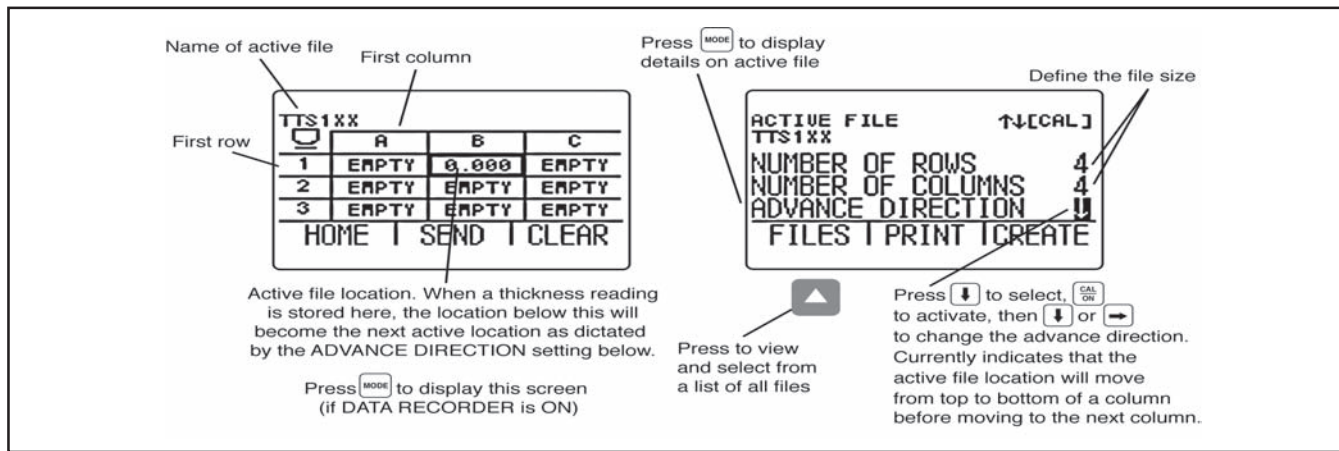

FIGURE 5-2—Defining the Size and Advance Direction of a Data Recorder File
- The first (TOP) and last (BOTTOM) positions in the Data Recorder file (Figure 5-2 describes how these define the number of locations in the new file)
- The ADVANCE DIRECTION (described in Figure 5-2)
The Data Recorder must be enabled (turned ON) via the CONFIGURATION display. Once the Data Recorder is turned on, the contents of the active Data Recorder file are displayed in the File Navigation Grid shown in Figure 5-2.
When the Data Recorder is turned on, the contents of the active Data Recorder file are displayed in the File Navigation Grid shown in Figure 5-2. Once the navigation grid is activated, , , , and  can be
Step 1: Press  to access the Data Recorder file display as shown in Figure 5-2.